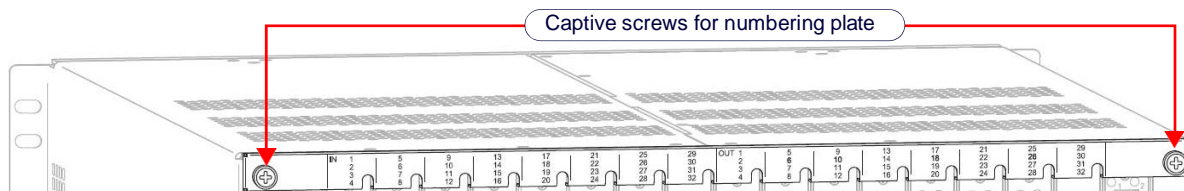

FIG. 105 Enova DGX 3200 only - two captive screws hold numbering plate above boards
2. **Enova DGX 3200 only** – Loosen the captive screw on each end of the numbering plate above the boards, and set the plate aside (FIG. 105):